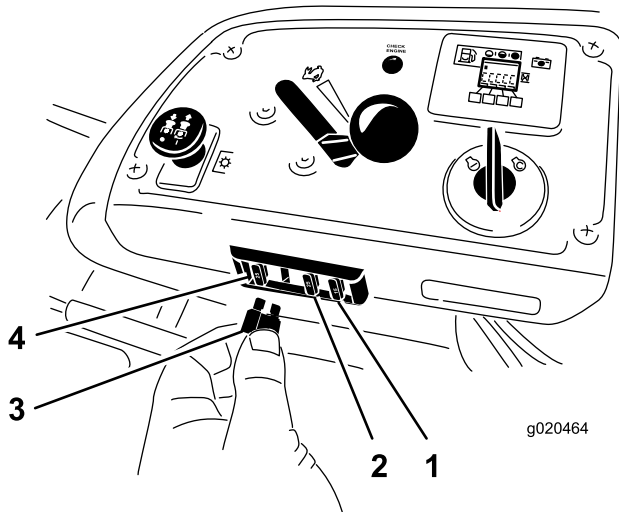

Figure 60
1. The fuses are located on right hand console next to the seat (Figure 60).
3. Install a new fuse (Figure 60).